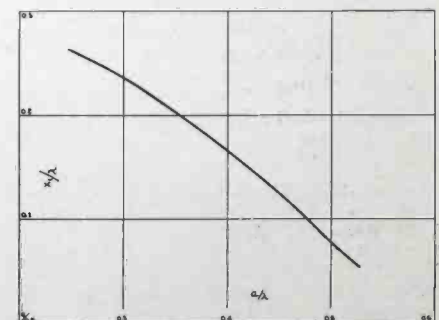

Figure 6
were substituted into equations (3) and (4) to determine the critical distance, x_1 . The results of this computation are shown in Fig. 6. This curve shows the distance to the critical point for particular antenna heights.